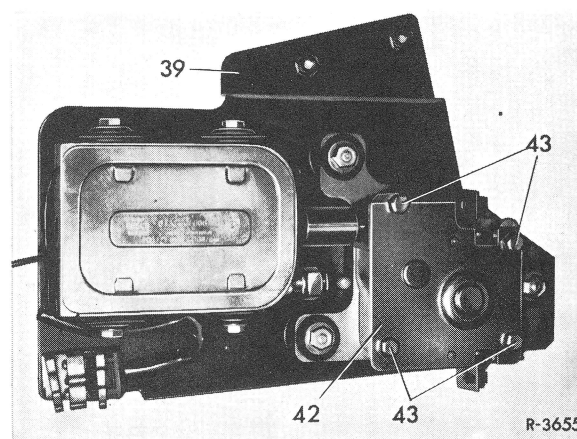

Fig. 2
- 3 Screw fastening screws (43) out of gear unit cover (42) (Fig. 2).
- 4 Remove gear unit cover (42) and take off large gear wheel (44) including drive shaft (45) (Fig. 2 and 3).